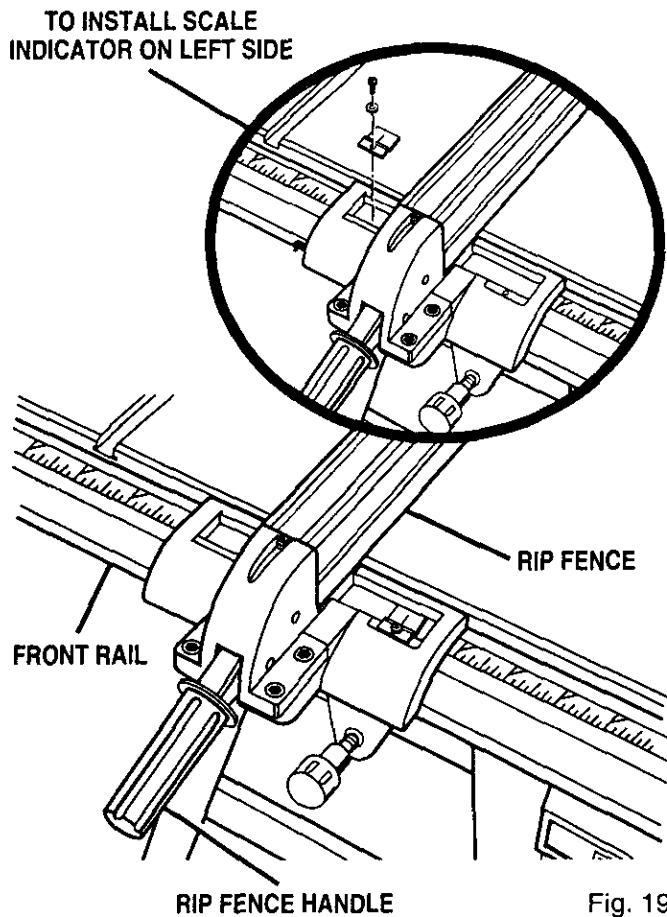

Fig. 19
- Slide the rip fence back and forth. It should move freely with about 1/16 in. clearance between the rip fence and table surface. If it doesn't, loosen the nuts holding the front and rear rails and adjust the rails up or down. See Figure 19.